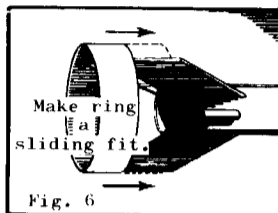

Fig. 6
10) Fit the fin-ring into place but do not glue it. Sand the tips of the main fins as needed to give a smooth slide fit to the ring without stretching it from its round shape. When this has been done, apply glue to the fin tips where the ring will seat and slide the ring into place. (See Fig. 6.)